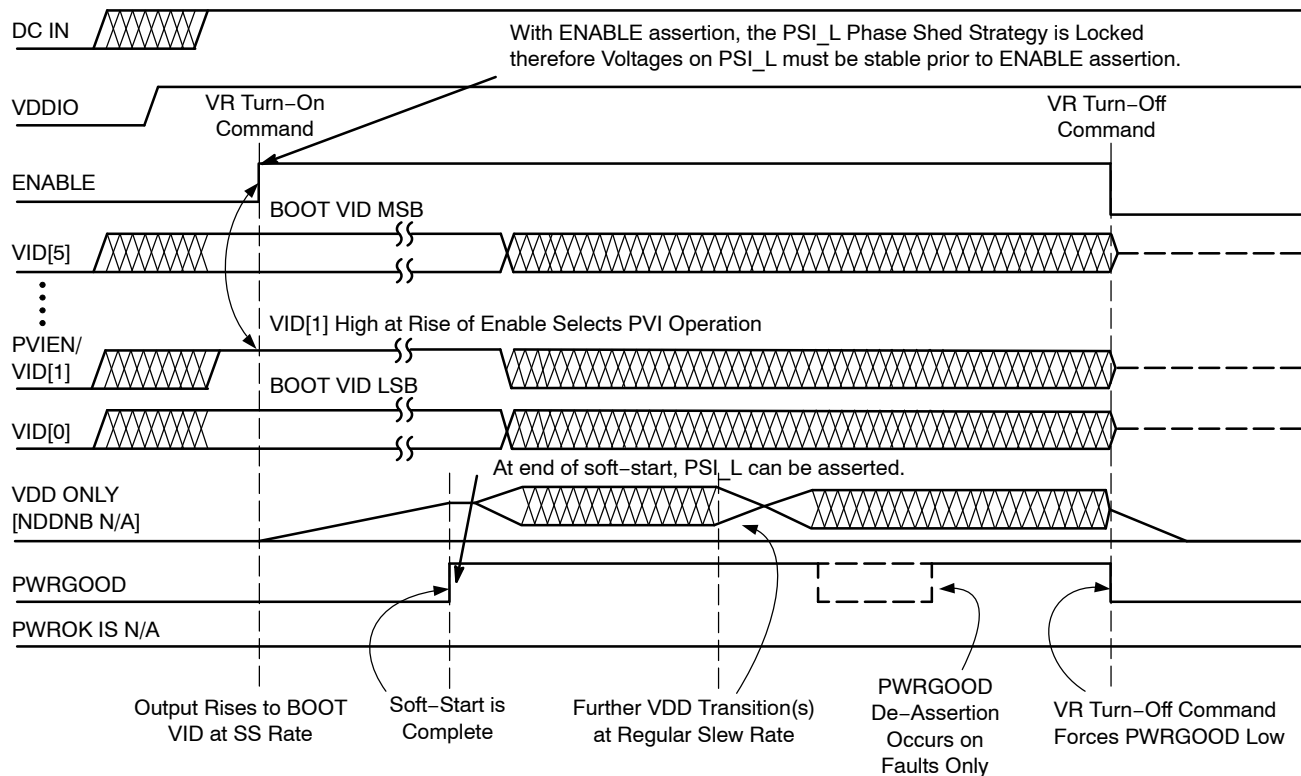

Figure 9. Power Up Sequences in Parallel Mode Operation
PVI is a 6-bit wide parallel interface to address the CORE Section reference. NB is kept in HiZ mode. Parallel mode operation is depicted in Figure 9. Voltage identifications for the 6bit AMD mode is given in Table 2.
- The NCP5393A will accept new VID codes on the parallel VID interface (See Table 2). See Figure 9 for details.